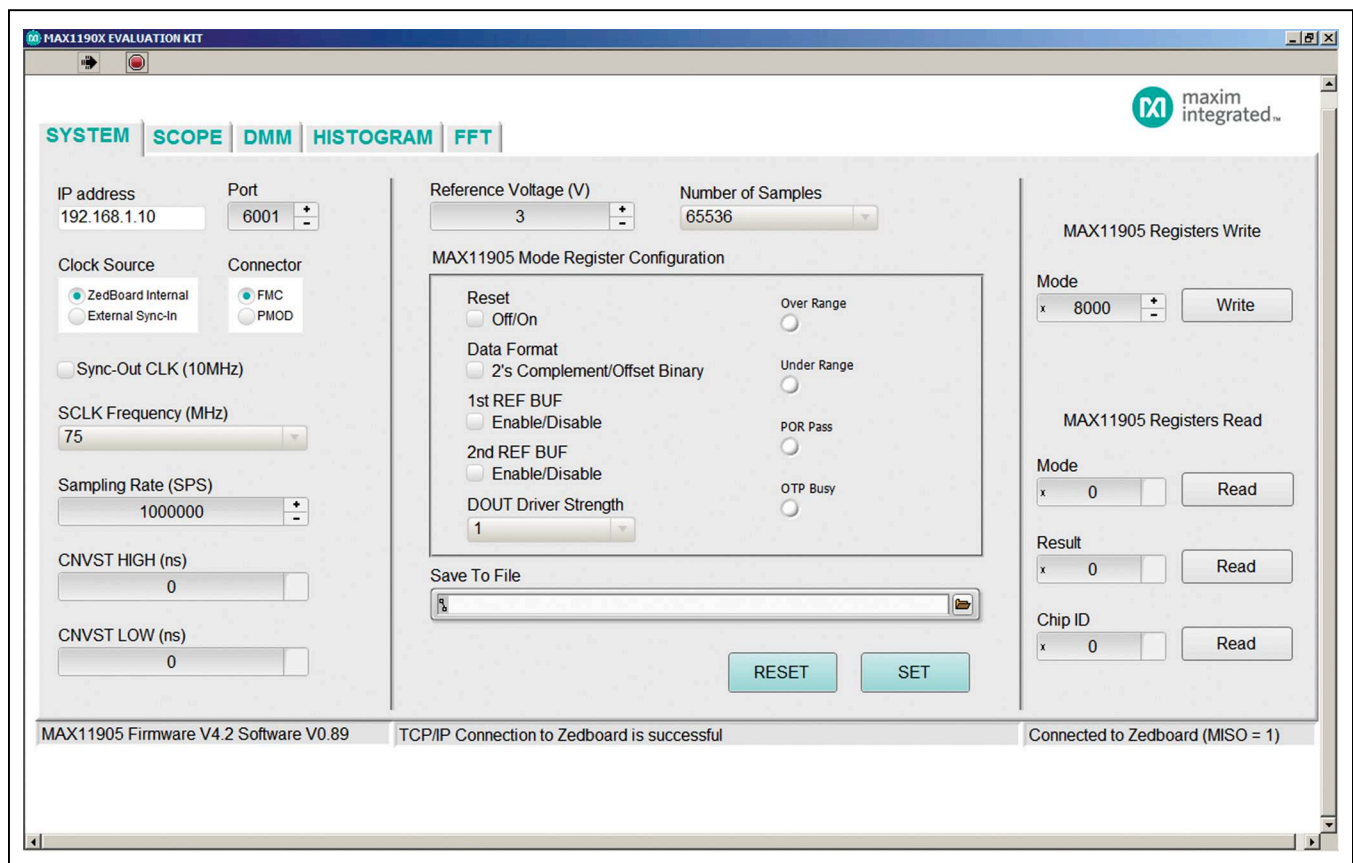

Figure 1. MAX1190X EV Kit Main Window (SYSTEM tab sheet)
- 21) Open the EV kit GUI and click on the **run** arrow (→) button at the top of the GUI screen (see Figure 1).
When all connections are made on the system and are fully powered, the **SYSTEM** tab sheet displays the correct IP address, port, and the lower status bar displays as shown Figure 1. These are all indicators that the system and GUI are ready for communication.